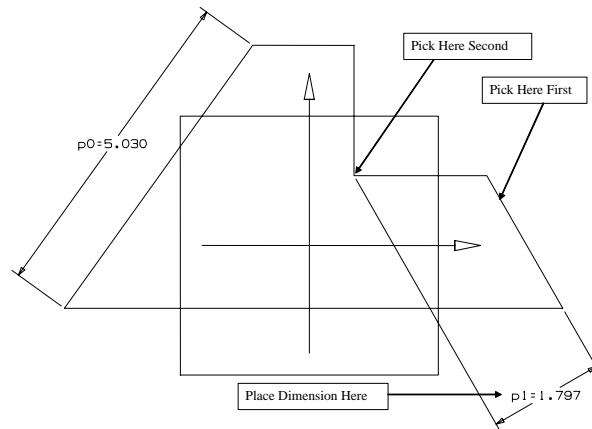

Figure 16
- Create the dimension as shown in Figure 16. UG creates a perpendicular dimension.